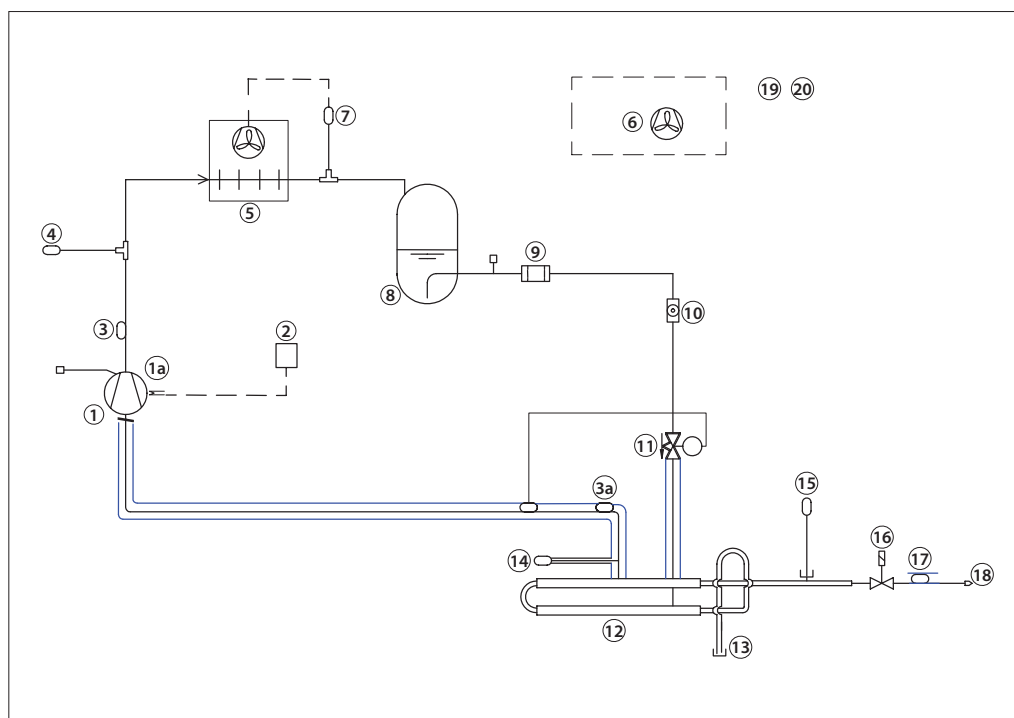

Fig. 1 - Purger R452A lay-out
Only 2 mechanical connections are needed for the purger (see fig. 1). The flow of ammonia/NC gases from the main plant is done through the flange for ammonia (see 13 in Fig. 1 below), while the NC gas purge is done through the blow-off pipe after the purge restrictor (18).